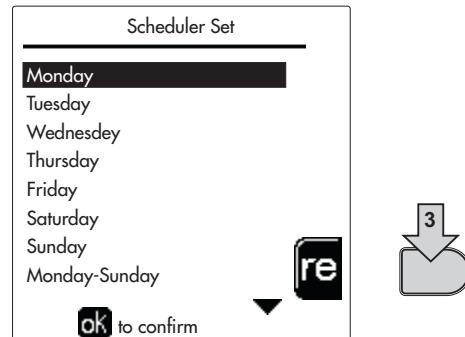

fig. 26
-  To restore the time program to the factory values, press **contextual button 3** in the **Time Program** menu (fig. 26) and confirm with **OK**.